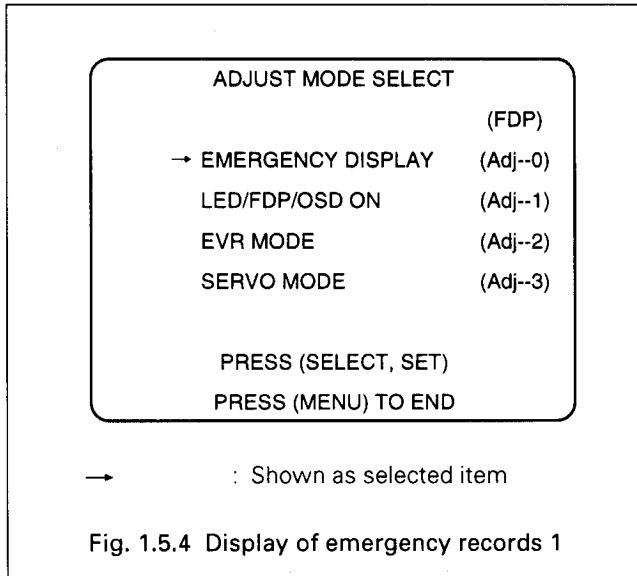

Fig. 1.5.4 Display of emergency records 1
3. Press the **SET** button, and the "ADJUST MODE SELECT" menu appears on the display. (Refer to Fig. 1.5.4.)
4. Select "SERVO MODE (Adj-3)" with the **SELECT** button. (Refer to Fig. 1.5.4)
4. Select "SERVO MODE (Adj-3)" with the **SELECT** button. (Refer to Fig. 1.5.4.)